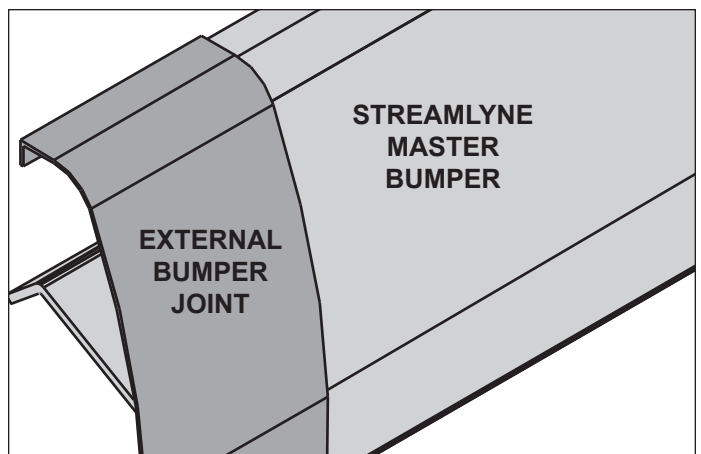

Fig. 5 Streamlyne master bumpers and joint trim
4. If the case has a Streamlyne bumper, the bumper will be shipped loose in the case. Before installing the bumper on the case, install the external bumper joint on the Streamlyne bumper (Fig. 5). Simply slide the joint over the bumper for either case-to-case or case-to-end joints.